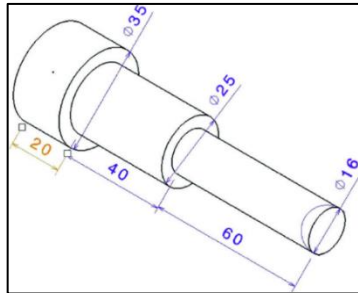

Figure 9: Final Shape of the job
4.1 Write a Numeric code to perform a step turning operation on a cylindrical block to get a job as given in below figure 9 on a CNC lathe machine. Use spindle speed of 1000 RPM and feed rate of 2mm/min.